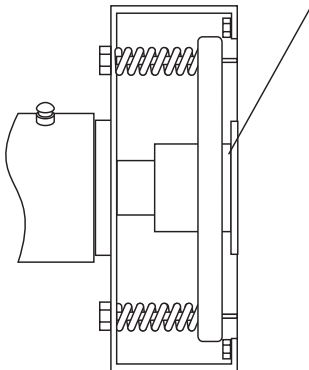

Figure 43. Replacing Drum Seals
3. Once the pressure plate touches the drum, it is time to replace the graphite seals (Figure 43).